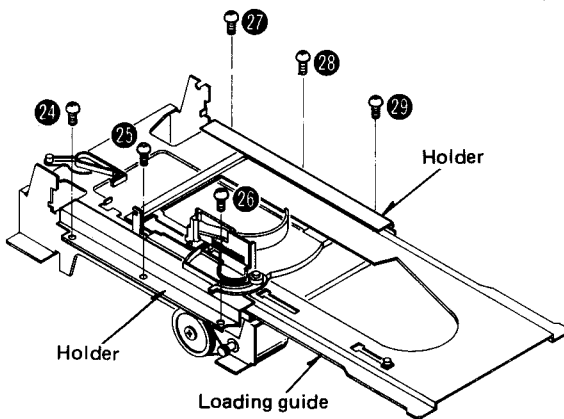

Fig. 13
2. Remove the 6 setscrews [Fig. 13 : 24 ~ 29] on the right and left side of loading guide holder. Then the loading guide can be removed.